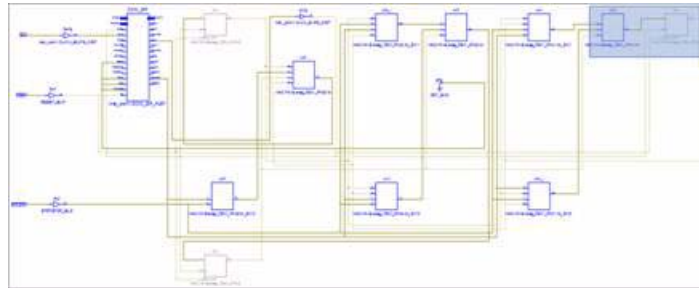

Figure 7-5: Stopwatch (Tech1) Schematic
2. On this sheet, select elements surrounded by the rectangle as shown in Figure 7-5.